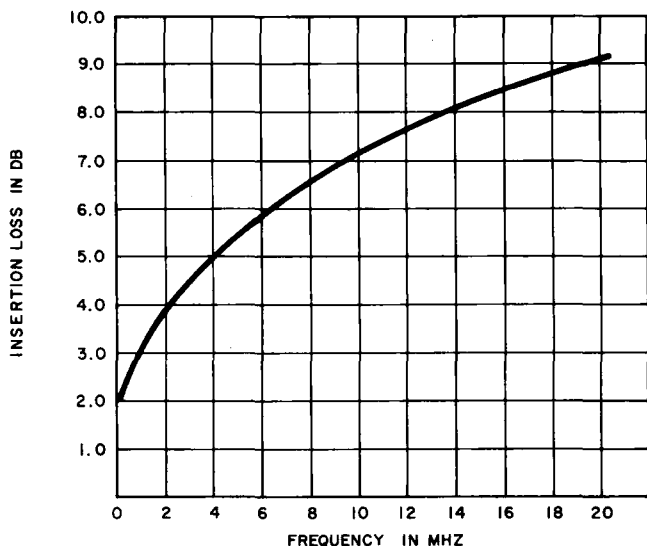

Fig. 14—Receiving De-emphasis Curve
7.05 The signals on an L4 line are *preemphasized* to improve transmission. Signals at 17.5 MHz are connected to the L4 lines at a level 6.1 dB higher than signals at 500 kHz. De-emphasis networks are provided in the receiving MMX-2 connecting panel to restore the received signal to a flat level-frequency characteristic. A de-emphasis network has a loss-frequency characteristic (Fig. 14) which is the inverse of the preemphasis. The output of the de-emphasis network is flat across the multimastergroup band: 564 kHz to 17.548 MHz.